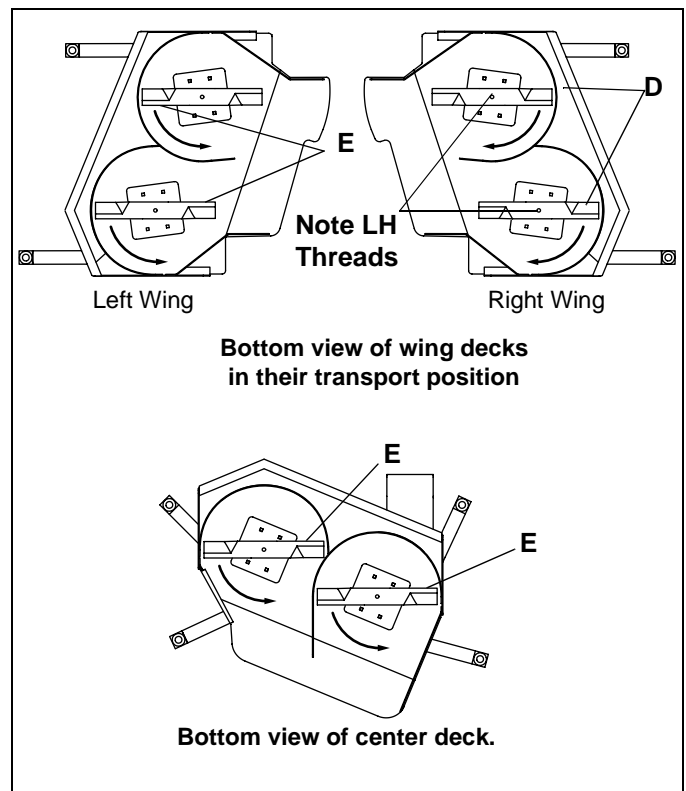

Figure 4G
- Attach blade to mower. Install blades so cutting edges (C) face the direction of rotation as shown in Figure 4G. Beveled cutting edge of blade must face in toward deck housing.
**IMPORTANT:** The two right hand blades (D) must be installed on the right wing deck using left hand threaded hardware. The remaining left hand blades (E) are mounted on the left wing and the center deck using right hand thread hardware.